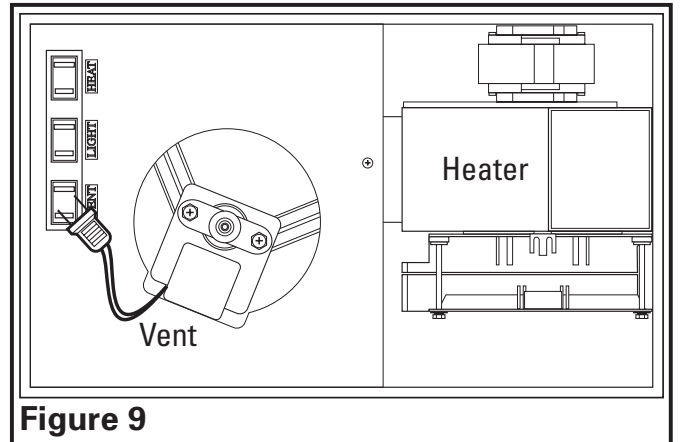
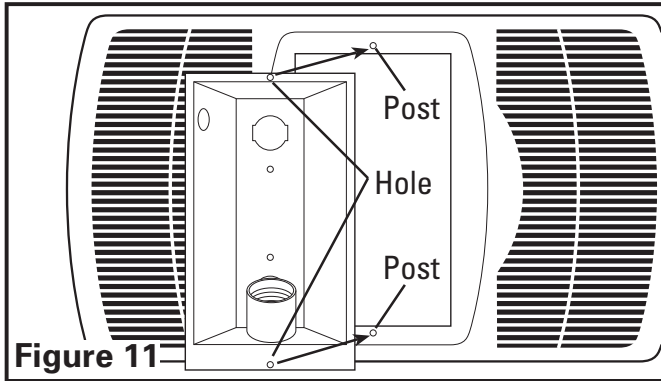

Figure 9
Figure 11
2. Insert the plug from the heating unit into the receptacle marked "HEAT", and the plug from the fan into the receptacle marked "VENT" (Figure 9).
- Install light reflector into grill by lining up the posts on grill with the holes in light reflector (**Figure 11**). Raise light reflector and grill up to housing and insert plug from light into receptacle marked "LIGHT" (**Figure 9**).